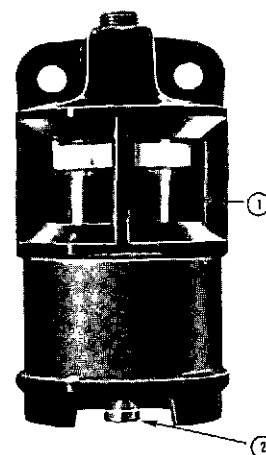

Fig. 2-2 (CGS20) Air inlet restriction gauge
A mechanical restriction gauge is available to indicate excessive air restriction through a dry-type air cleaner. This gauge can be mounted in air cleaner outlet or on vehicle instrument panel. The restriction indicator signals when to change cartridges. The red flag (1, Fig. 2-2) in window gradually rises as cartridge loads with dirt. Do not change cartridge until flag reaches top and locks in position. After changing cartridge, reset indicator by pushing reset button (2).